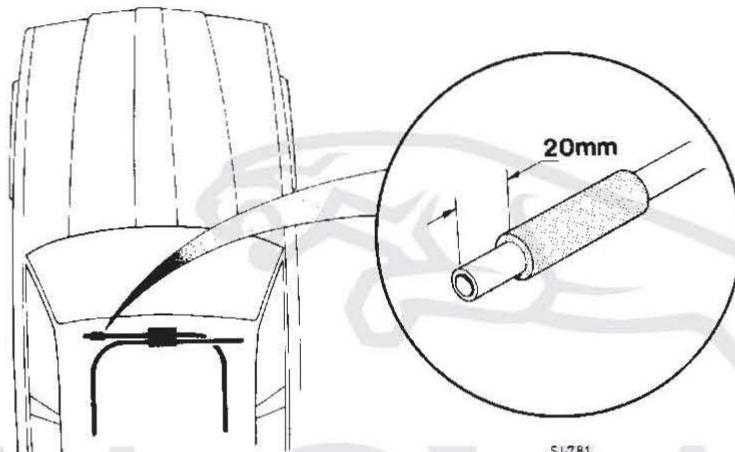

Fig 12
- 8 Fit the foam sleeve onto the end of the offending tube until 20mm of the tube protrudes through the sleeve (Fig 12).